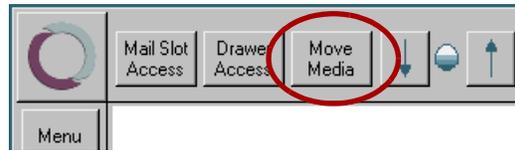

Figure 5-11: NEO 8000e Default Screen Top Buttons - Move Media
1. At the Default screen, press **Move Media** (Figure 5-11).